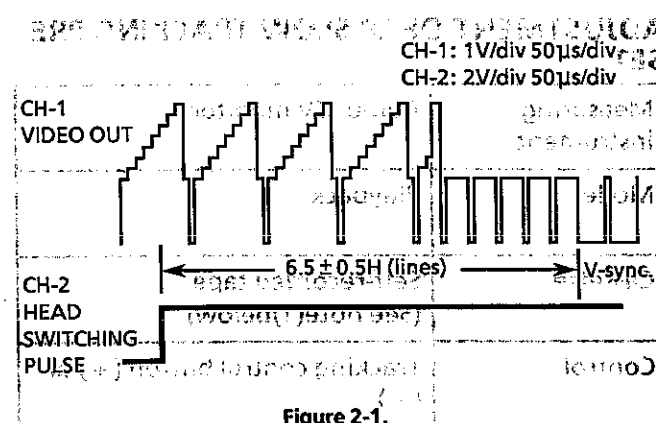

Figure 2-1
7. Make this checking of waveform on the oscilloscope screen be as shown in Figure 2-1. just after the head switching point have been adjusted.